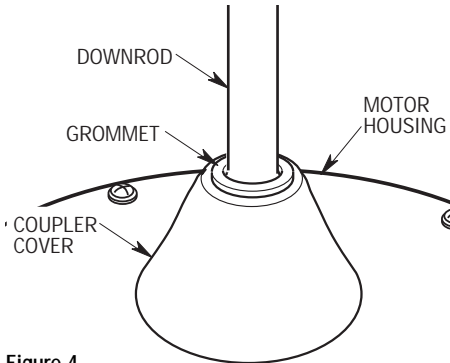

Figure 4
- 6. Route the motor leads through the coupler cover onto the downrod until it rest on the motor housing (Figure 4).